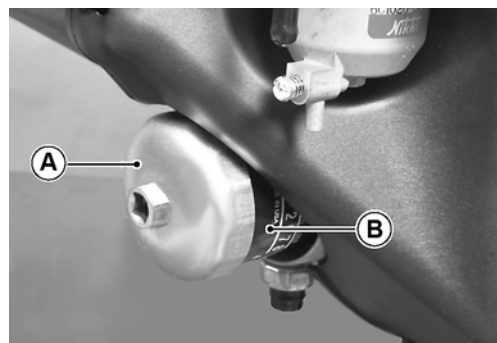

Fig. 37 Remove Oil Filter
Clean the area around filter. Using a filter wrench, strap wrench or other suitable wrench (A), remove the filter (B) from the engine and allow the oil to drain. The 'O' rings may remain on engine (A) or filter (B) (Ref. Fig. 37 on page 24)